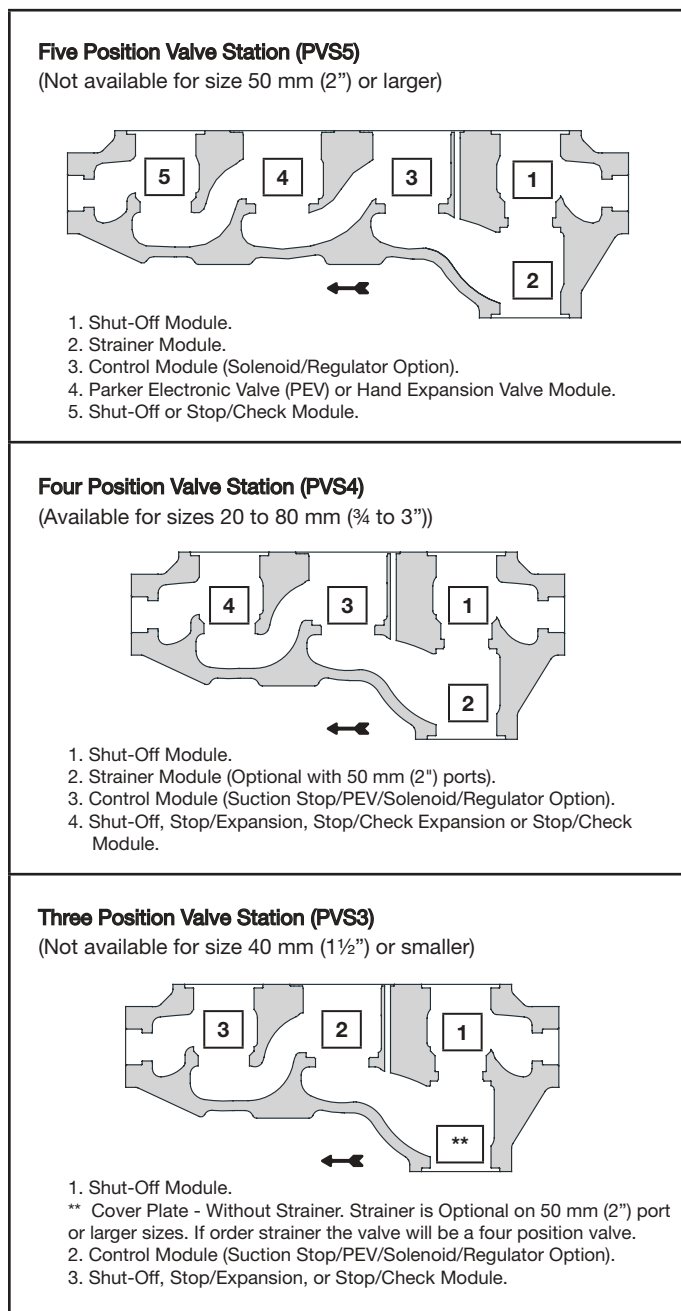

Figure 1: PVS Housings.
2. The flow coefficient shown is for the control module at the corresponding position, shown in Figure 1.
The PVS is an innovative design which combines several different functions into one compact valve station. This multi-module platform is available in three, four or five position housings, as shown in Figure 1, with the capability of interchangeable modules (according to sizes available):
There are many possible options for the control module position (see Figure 1), such as: solenoid ('PS4'), dual solenoid ('PS4D'), electronic ('PEV'), suction stop ('GSS'), inlet pressure regulator ('PA4'), outlet pressure regulator ('PA4O') or differential pressure regulator ('PA4L') and these regulators may be used in combination with other variations; e.g. electric shut-off ('PA4S'), electric wide-opening ('PA4B') and dual pressure ('PA4D'), etc. Reference Schematic Flow Diagrams in **Appendix "A"** for a better understanding of each variation.